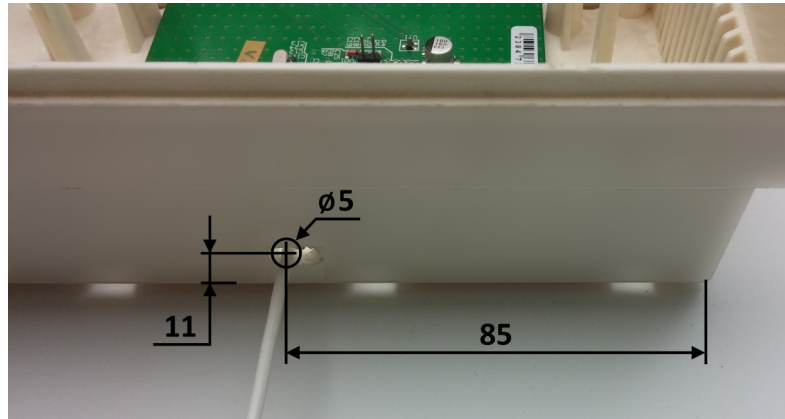

Figure 22. Hole in the housing for the antenna of “R433” rev.4 radio receiver
2. Drill a hole in the device housing as shown in Figure 22, and install the radio receiver board as shown in Figure 21;